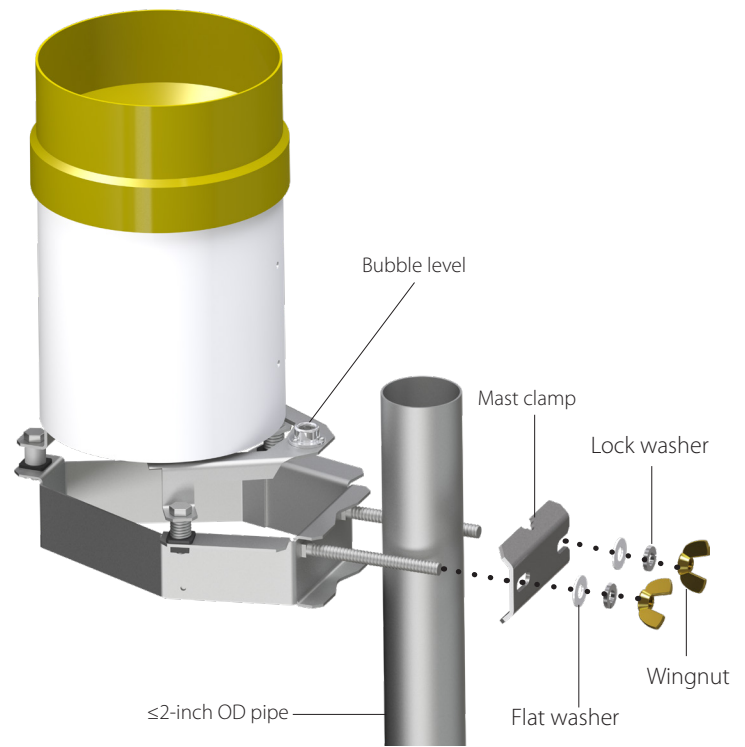

Figure 4. CM270 pipe mounting (exploded view)
2. Loosen the mounting-bracket wingnuts, and slide the assembly over the pipe. If necessary, the pole mounting hardware can be removed to get the bolts around the pipe. If this is necessary, to reassemble, put the mast clamp on first followed by the flat washers, lock washers, and wingnuts. See FIGURE 4.